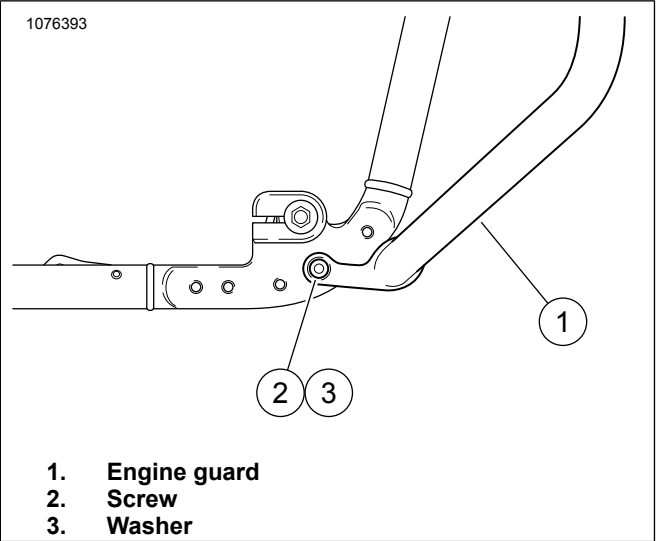

Figure 2. Engine Guard Lower Mounting (Right Side View)
3. See Figure 2. On the right side of the motorcycle, attach the engine guard (1) to the lower frame with screw (2) and washer (3) from the kit. Tighten finger-tight. Repeat this step for left side.